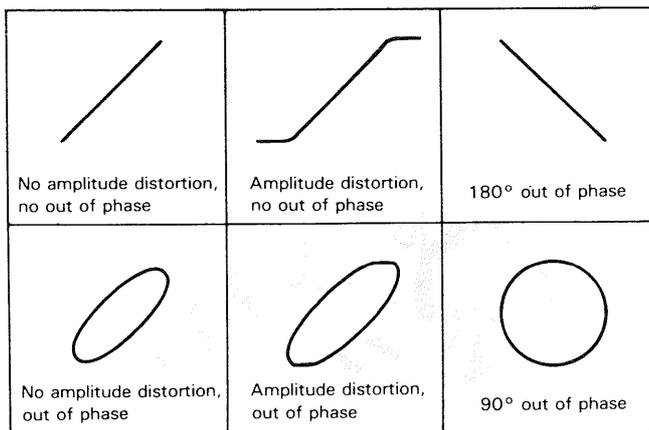

Fig. 26 Typical phase measurement oscilloscope displays
7. Some typical results are shown in Fig. 26.